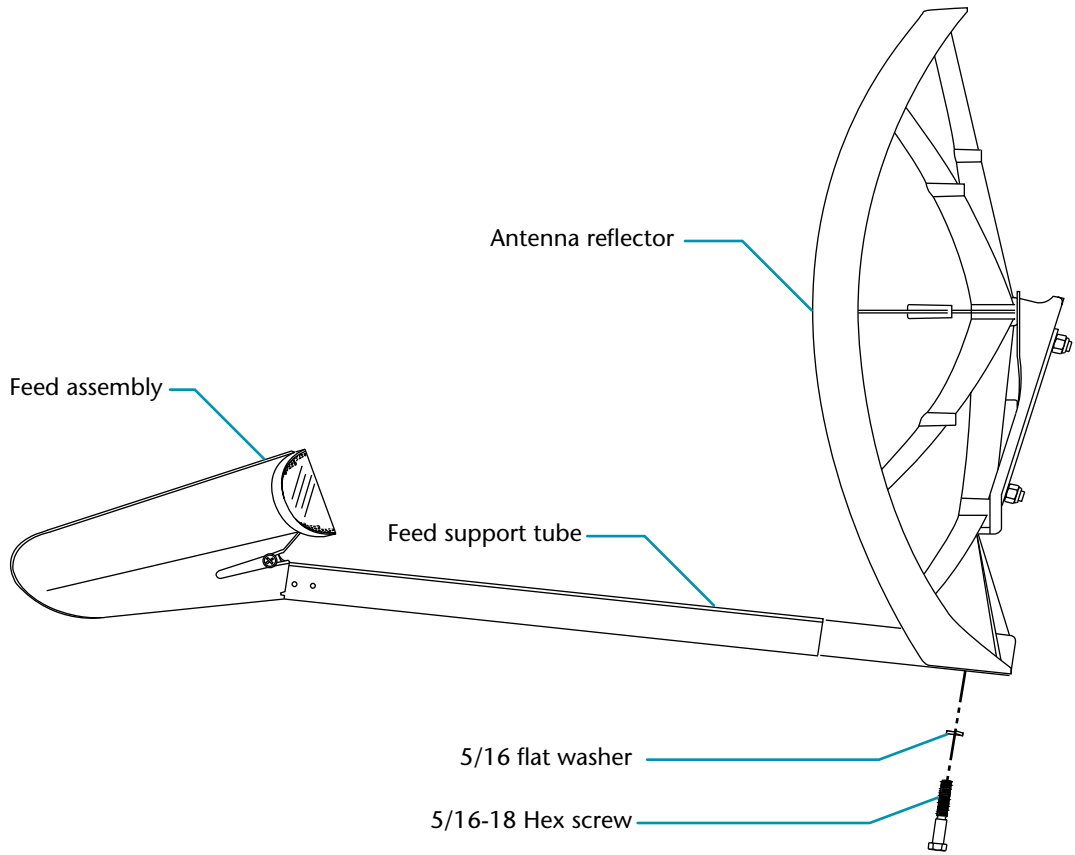

Figure 4-29. Installing feed assembly and feed leg onto antenna reflector
1. Install the feed leg into the feed support socket on the antenna reflector (see figure 4-29).
2. Secure the feed leg with a 5/16 flat washer and 5/16-18 hex screw as shown in figure 4-29). Use a torque wrench to tighten the hex screw to 8 to 10 ft-lbs.